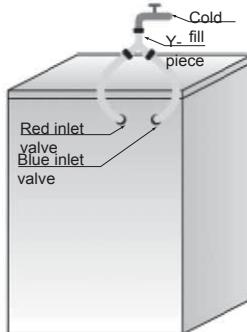

Fig.2
**If you wish to connect only the cold fill follow the below instructions (Fig. 2):**